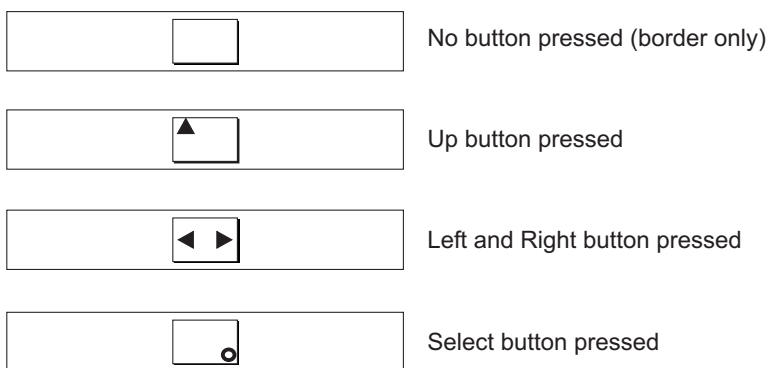

Figure 70. Front panel display when push buttons are pressed
3. Press the up, down, left, and right buttons to verify that they are working. Figure 70 shows four examples of what the front panel should display when you press the buttons. When you have finished testing the buttons, press and hold the select button for five seconds in order to exit the test.